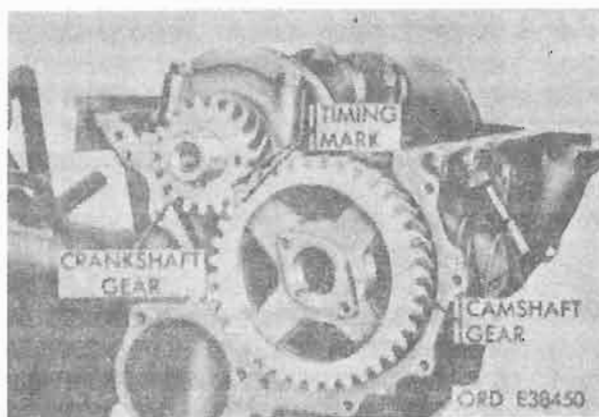

Figure 4-241. Timing gears marks.
(2) *Align timing gears.* Turn crankshaft until No. 1 rod journal is in the up position, on center of No. 1 cylinder bore. Align timing mark "O" on face of camshaft gear with timing mark "O" on crankshaft timing gear and push camshaft towards rear of engine. (fig. 4-241).